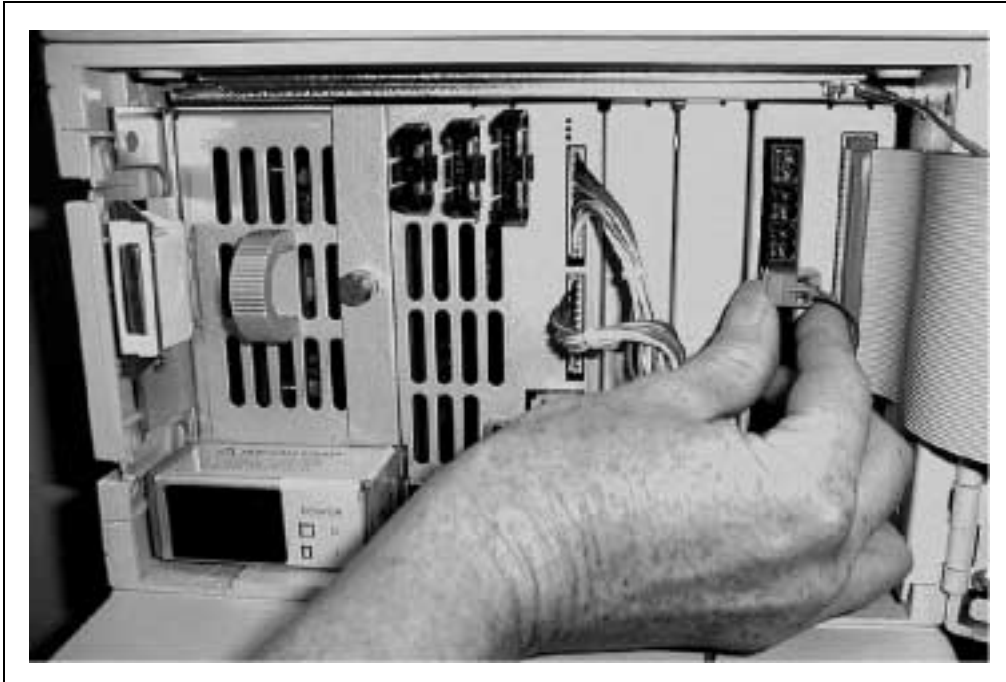

Figure 4. Connecting the Control Input Cable to the Pump TTL Connector
3. Connect the SC20 **CONTROL INPUT** cable to the TTL-2 OUT connector (see Figure 4). Be sure to route the cable through the slot in the side of the module; this will ensure that the door closes completely.